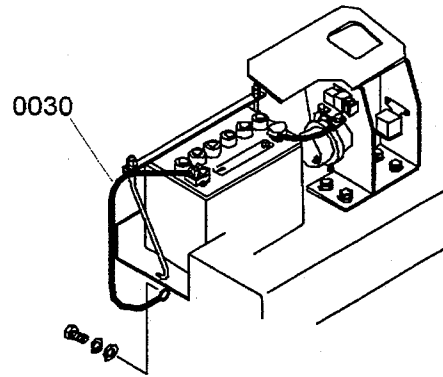

Fig12-51:
2. Fig12-51: Disconnect the battery negative cable (0030).